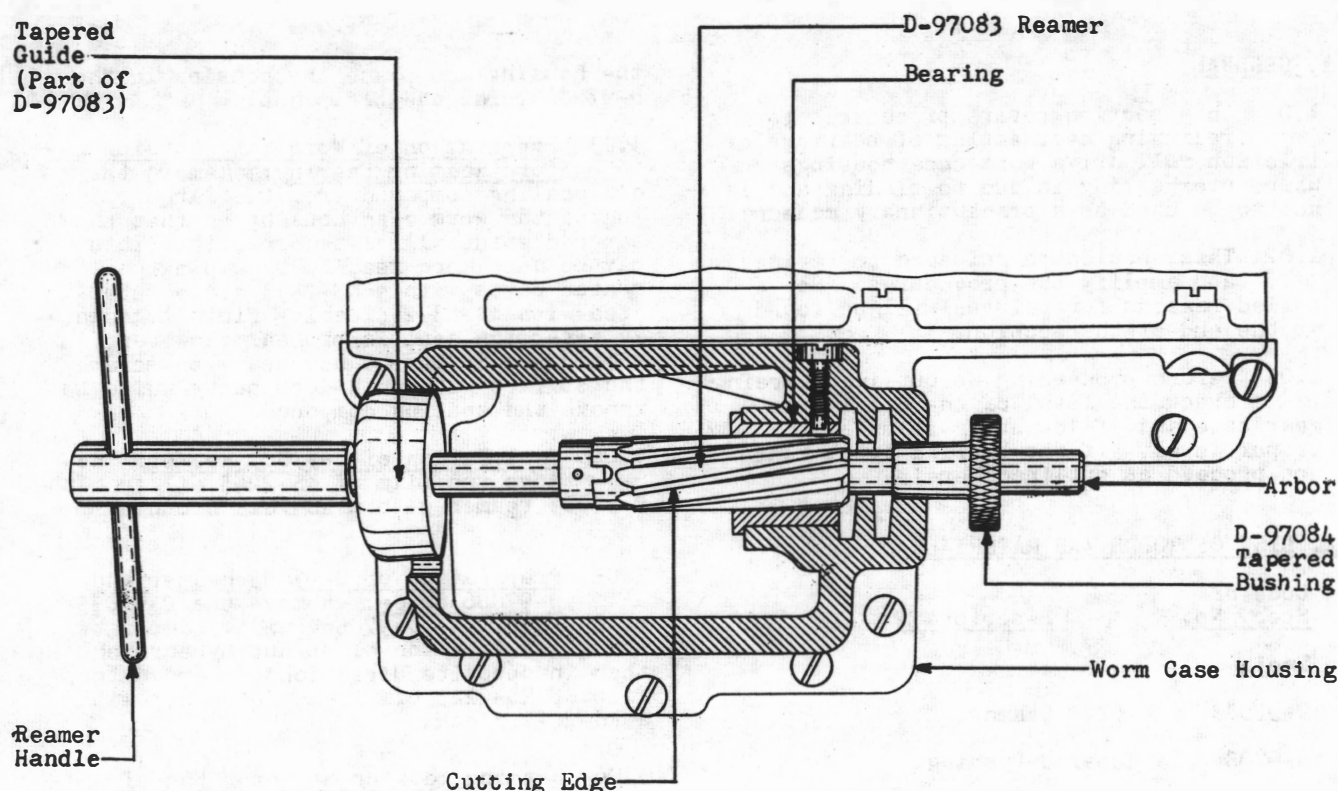

Fig. 1 - Reaming Bearing at Motor End of Worm Case Housing
3.06 Reaming Bearing at Motor End of Housing: Insert the D-97083 reamer into the worm case housing through the large opening and slide it through the bearing until the small end of the arbor of the reamer protrudes through the small opening at the motor coupling end approximately 1/2". Telescope the D-97084 tapered bushing over the arbor and press it into the small opening as shown in Fig. 1. Then press the tapered guide on the reamer into the large opening in the worm case housing, finger tight. Ream the bearing to about 1/3 its depth by turning the handle of the reamer slowly in a clockwise direction. Then with the tapered guide still in place carefully remove the reamer from the bearing still turning it in a clockwise direction. Remove any chips that may adhere to the reamer with a KS-2423 cloth. Reinsert the reamer into the large opening in the housing and continue the reaming operation as outlined above until about 2/3 the depth of the bearing has been reamed. Remove and clean the reamer as outlined above after which it should be reinserted in the housing as outlined above only this time continue the reaming operation until the shoulder of the reamer handle bears against the tapered guide. Remove and clean the reamer as outlined above. Remove the D-97084 tapered bushing. ←